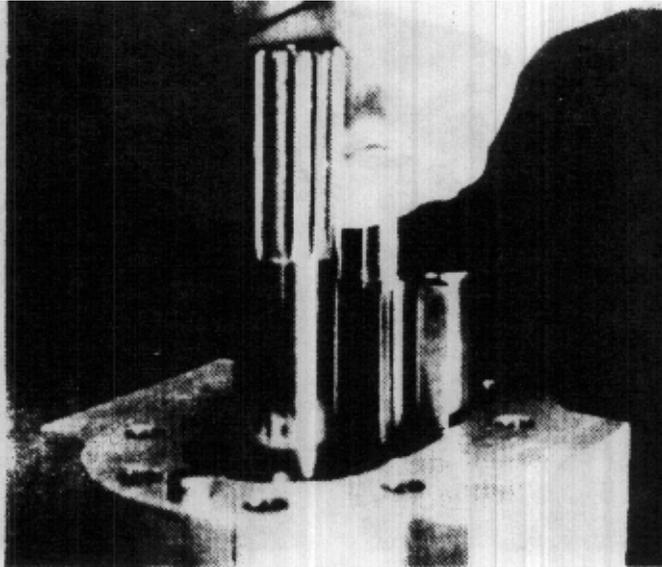

FIGURE 81
10. Lift drive gear (5) and idler gear (7) straight up out of the motor body. (Fig. 81)